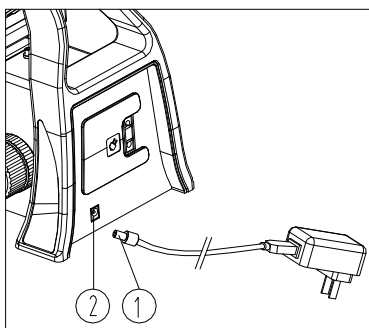

Fig.5
2. Insert the connector (1) of into the power socket (2), and make sure it connects well (Fig.5).